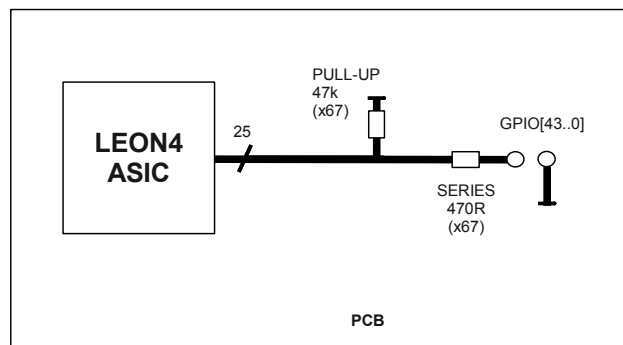

Figure 2-15: PIO interface configuration
- 25 signals I/O's on 0.1" pin headers (with pull-up and series current limiting resistors as shown in Figure 2-15)